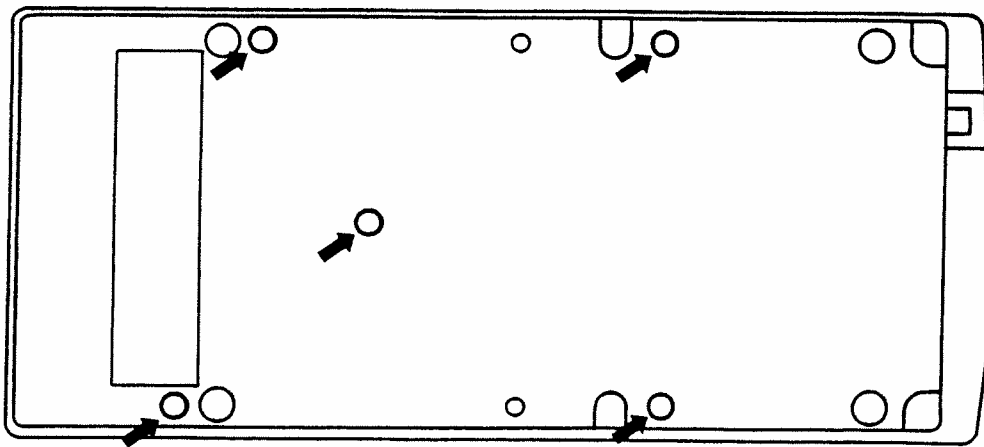

Fig. 50b
- Unscrew the six Torx screws 193 of the circuit board and remove the circuit board (fig. 50b).